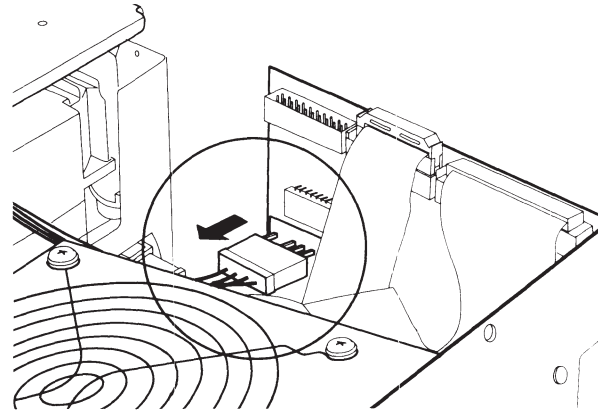

Figure 7-57. Removing Power Cables.
3. Disconnect the universal drive power and power supply cables from the external interface adapter board (Figure 7-57).